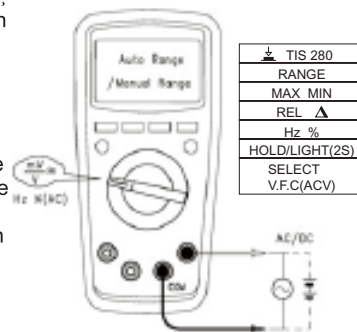

Figure 3
1. AC and DC Voltage Measurement (See Figure 3)